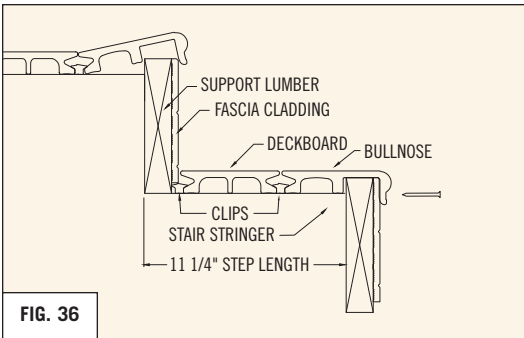

FIG. 36
- Cut bullnose to length and fit under last row of clips. Snap bullnose into place over support block and fascia cladding. (REFER TO FIG. 36)
- Pre-drill 3/16" holes every 24" into the lower lip of the bullnose and through the fascia cladding. Slot all holes 3/8" in the bullnose lip to allow for expansion and contraction. (REFER TO FIG. 36)